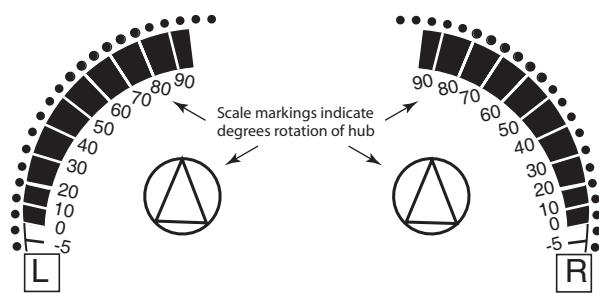

Figure-8 Position Indicator
- When operating manual override (observe position indicator, Figure-8), back off 5° (1/2 turn counter clockwise) from full extended mechanical stop to ensure proper release.